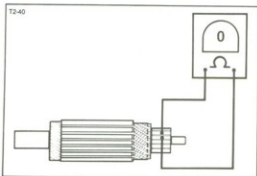

Figure 5-16. Armature Open Test
3. See Figure 5-16. Touch one probe of the ohmmeter to a commutator segment and the other probe to the adjoining segment. There should be continuity (zero ohms).